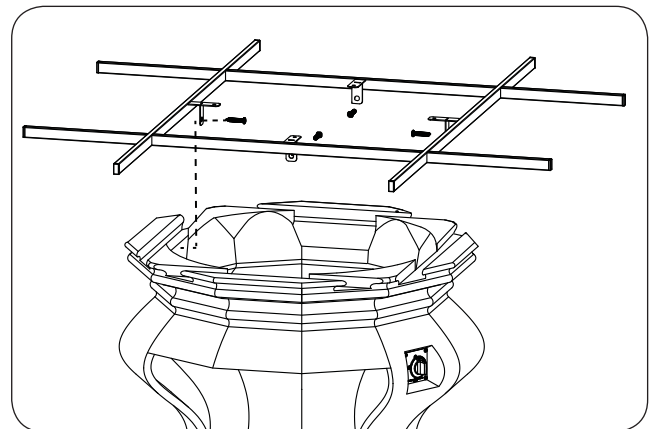

Fig. 24-2 Install bracket
3. Place the bracket in the grooves found on the top of the base. Then use a Phillips screwdriver and the supplied concrete screws (4) to fasten the bracket into the base as shown in Fig. 24-2.